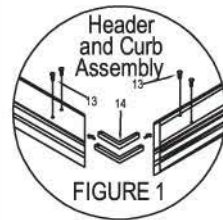

FIGURE 1
2. Assemble header and curb with clips provided (Figure 1).